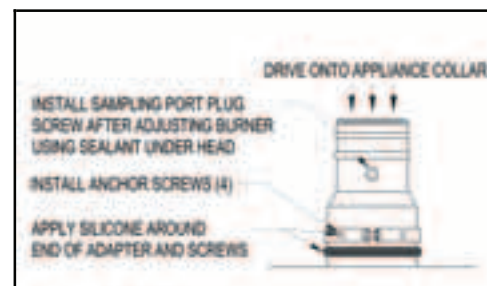

Figure 21
4. Using a mallet and block of wood, drive the adapter onto the appliance collar, using care to avoid damaging the appliance collar or the adapter (Figure 21).
6. Install the supplied self-drilling, self-tapping anchoring screws through the 4 holes in the appliance clamp into the appliance collar (Figure 21). No pilot hole is required.
7. Apply sealant to the end of the adapter and anchoring screws. (Figure 21).
8. After testing and burner adjustments have been made, apply sealant to the supplied 3/8" sampling port plug screw and install the screw in the sampling port (Figure 21).